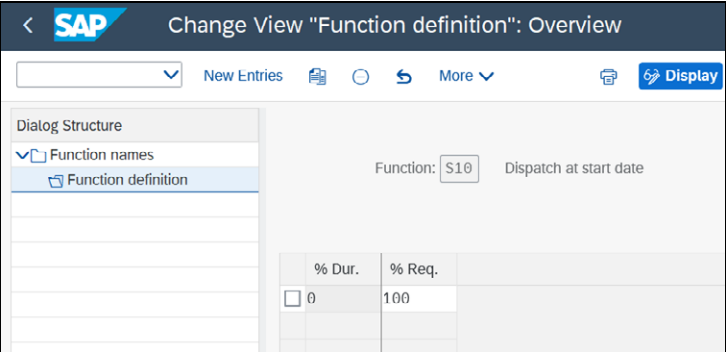

Figure 4.11: Change View “Function Definition”: Overview: Function S10
1. Review entry **S10: Dispatch at start date** by selecting the entry and double-clicking on the **Function definition** folder in the **Dialog Structure**, leading to the screen shown in Figure 4.11. This entry is capable of dispatching the effort just at the beginning of the operation and indicating when the **% Dur.** (duration) is **0** and the **% Req.** (required) is **100** (meaning that full effort is required at the beginning).